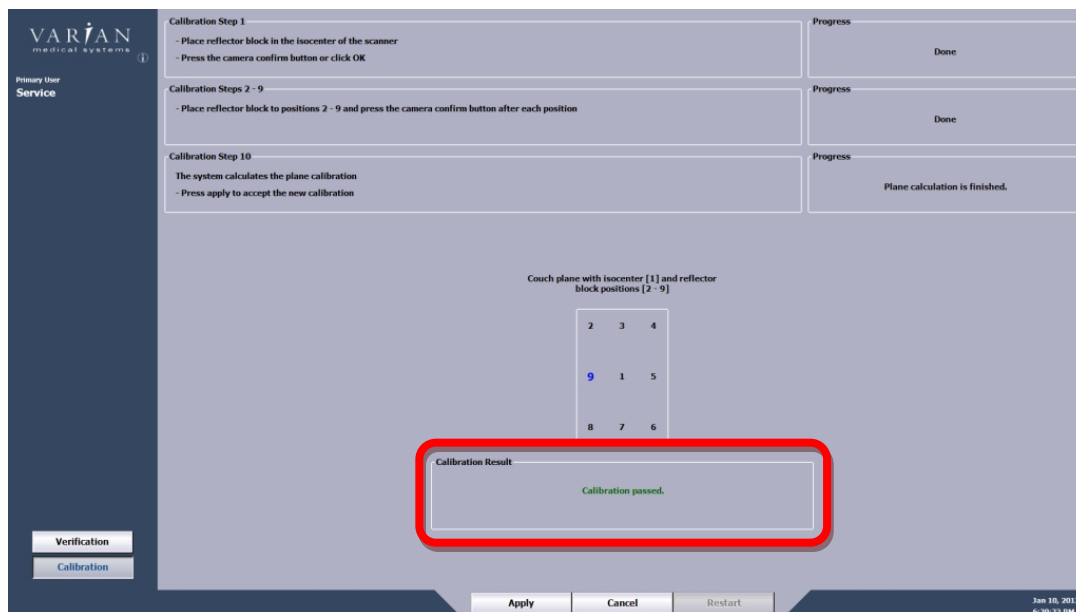

Figure 18: Camera calibration passed
- The system automatically defines the location of the couch surface based on the previous steps (measurements) and confirms this with “*Calibration passed*” as indicated in Figure 18.